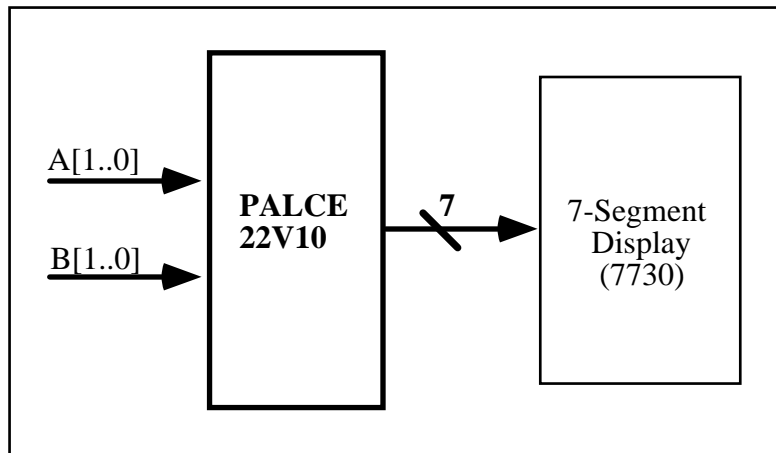

Figure 2: Part II Block Diagram
- a) In this part of the lab, you will implement your 2-bit adder using a Programmable Array Logic (PAL) device. The entire combinational network designed in Part I can fit onto a single PAL chip, as shown in Figure 2. (Note that in this part you do not need to include the carry-in bit, C0, although you can include it if you choose. Since 5-variable Karnaugh maps are difficult to work with, we have reduced the number of input variables to 4.)